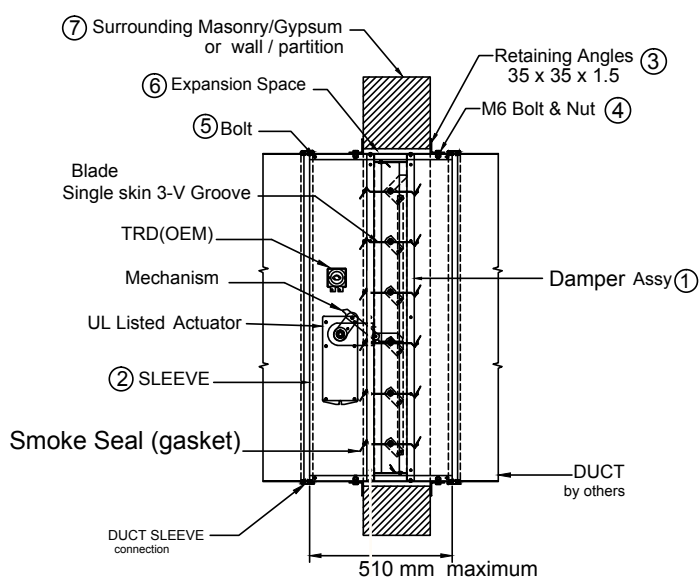

FIGURE 1
- 1) The damper ( 1 ) should be installed vertical, centrally and resting on the bottom opening within the surrounding masonry / gypsum wall (7). Actuator should be out of wall / gypsum partition as shown in ( figure 1 ).